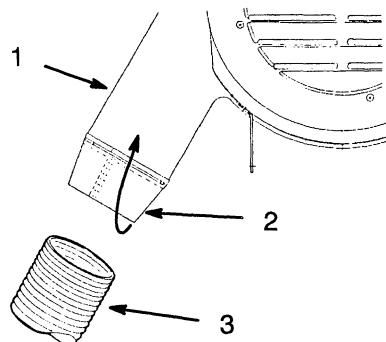

Figure 15
5. Fold seal into top assembly inlet and install discharge tube (Fig. 15). Seal should remain folded inside top assembly inlet to prevent blowout.